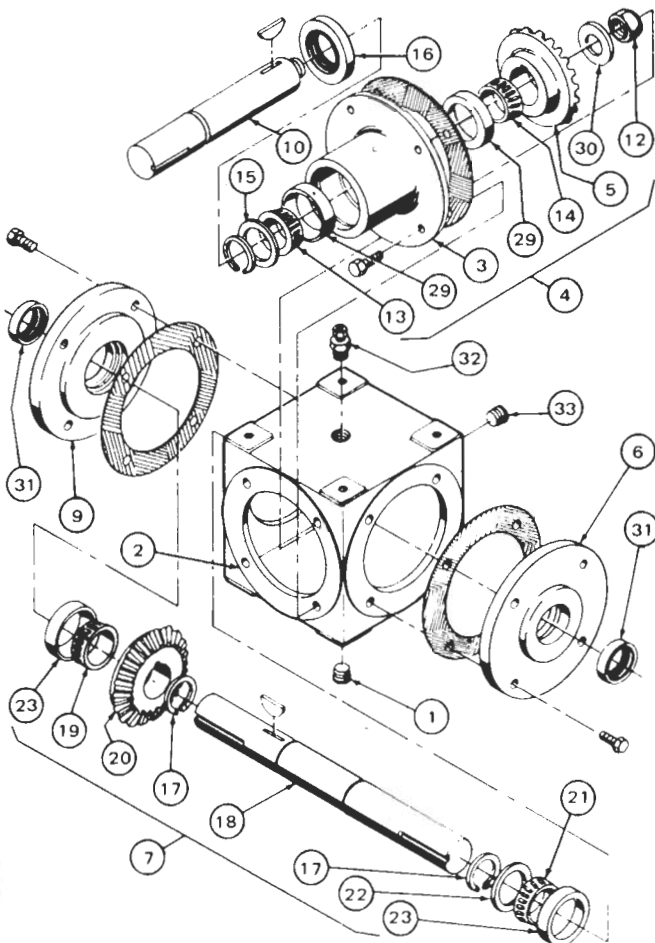

FIGURE 4
2. Remove Pipe Plug (1) from bottom of Gear Case (2) and drain all lubricant from unit, preferably while unit is warm.
3. If old seals are to be salvaged, cover keyways with cellophane tape, plastic shim stock or paper. Remove cap screws from Pinion Housing (3). CAREFULLY remove Pinion Shaft Assembly (4). Be careful – keep bearings clean and do not damage Gear (5) teeth.
4. Remove cap screws from Open Cap (6) which is opposite the gear side of Cross Shaft Assembly (7, Figure 4) and remove bearings to prevent damage to gear teeth. Slip open cap with seal off cross shaft.
5. Remove cap screws from Open Cap (9) on the gear side of Gear Case (2) and remove cap and gaskets. This completes disassembly of sub-assemblies.
Secure Pinion Shaft (10, Figure 4) with a vise, and remove Lock Nut (12) and washer from shaft. Place pinion assembly in a press with threaded end of shaft up and back side of Bevel Gear (5) supported. Remove gear by pressing out.
Cross Shaft Assembly (7, Figure 4) is disassembled by removing Snap Rings (17) and placing Shaft (18) in a press with sleeve between anvil and gear.
2. Replace Bearing Cups (23 and 29. Figure 4) in pinion housing and open caps being careful to remove any foreign particles in the counterbore. Bearing cup must seat squarely in counterbore. If cup must be tapped into place, use a rubber hammer or piece of wood to protect cup surfaces. Do not insert seals at this time.
3. When reassembling Pinion Shaft Assembly (4, Figure 4), Cross Shaft Assembly (7, Figure 4) refer to Figure 4 so that all parts are included in their proper position. Be sure that parts are pressed tightly against one another and that no foreign material is included between them.
Assembly of Cross Shaft Assembly (7, Figure 4) is essentially the reverse of the disassembly procedures except that when installing Bevel Gear (20) on shaft, first insert Snap Rings (17) and woodruff key. Gear is then heated in hot oil and then installed on shaft where it will cool and shrink fit.
The Pinion-Shaft Assembly (4, Figure 4) is assembled as follows: Insert snap ring and Spacer (15) on Pinion Shaft (10). Press Outer Bearing Cone (13) on shaft using inserting tool. Place threaded end of shaft into Pinion Housing (3) and press Inner Bearing (14) over shaft and into pinion housing with inserting tool. Install woodruff key and press Pinion Gear (5) on shaft. Assemble Pinion Washer (30) and Lock Nut (12) on shaft. Secure assembly in a vise as shown in Figure 8 and tighten lock nut enough to draw down gear and washer until the bearings bind. Nut is then
Install Open Cap (9, Figure 4) on the gear side of Case (2, Figure 4) with 3 shims. Fasten caps and gaskets to gear case by torquing down cap screws securely. Insert Cross Shaft Assembly (7, Figure 4) carefully through opening in case and into open caps. Install 2 shims and Open Cap (6, Figure 4) on the case side which is opposite the gear with cap screws and torque down all screws evenly.
Insert Pinion Shaft Assembly (4, Figure 4) carefully into Case (2) using 3 shims and cap screws. Gear backlash is adjusted by moving shims from the cross shaft or output sleeve open cap on the gear side to the side opposite the gear until gears rotate freely, with no noticeable backlash. At this point, move 2 shims back to the gear side end cap and the gears will then be properly adjusted.
Oil seals (30 and 31, Figure 4) and (16, Figure 4) can now be installed in open caps and pinion housings. Slip Seal (1, Figure 10) over tapered end of Pilot Sleeve (2, Figure 10), making sure that the spring loaded lip of the seal is facing toward the Bevel Gear Drive. Slip pilot sleeve over shaft and down until end of sleeve is against bearing. Install Seal Driver (1, Figure 11) over pilot sleeve and tap seal down sleeve until it is seated in housing or cap. Remove seal driver and pilot sleeve. These installation tools are available from Hub City.
Clean and recoat Drain Plug (1, Figure 4) with Loctite® and replace in bottom of gear case. Remove Fill and Breather Plug (32, Figure 4) and Oil Level Plug (33, Figure 4). Fill gear case with recommended lubricant and follow all recommended procedures as detailed in Lubrication and Installation Instructions which are included with each Drive.